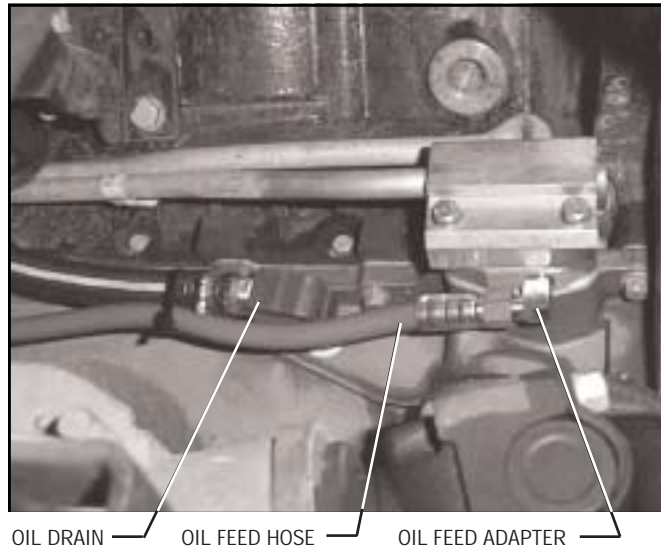

Fig. 6-a
- A. To provide an oil drain for the supercharger, it is necessary to make a hole in the oil pan. Locate and centerpunch the hole per *Fig. 6-a*. Drill a 1/8" pilot hole at center location.
- E. Route the oil drain hose from the supercharger to the barb fitting, attach and tighten the hose clamp. (See *Fig. 6-a*.)
- C. Using the adapter, the appropriate supplied gasket and the supplied longer 6mm screws, assemble the components as shown in *Fig. 6-a*.
- E. Route the oil feed line from the supercharger to the installed fitting. Use an adel clamp on the side of the oil pan and tie wraps to secure the oil feed and oil drain lines and protect them from kinking, abrasion and high heat areas. (See *Fig. 6-a*.)